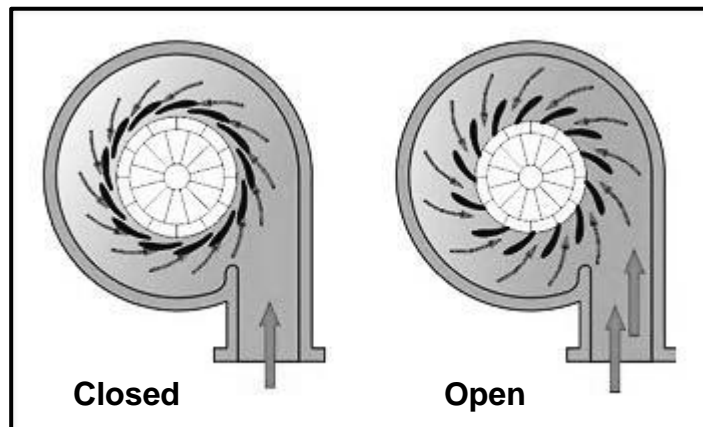

FIGURE 6.5
- 6.5 FIGURE 6.5 below shows views of the turbine of a turbocharger with the vanes closed and open. Answer the questions that follow.